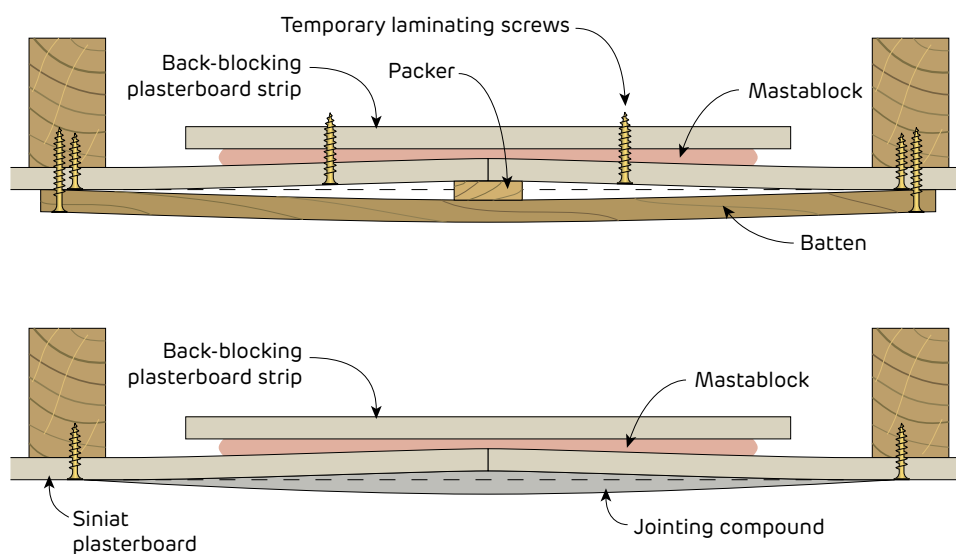

FIGURE 60 Creating a Recess on a Wall Butt Joint using a Temporary Packer
- > Wall butt joints need support for the back-blocking strips as shown in Figure 60.